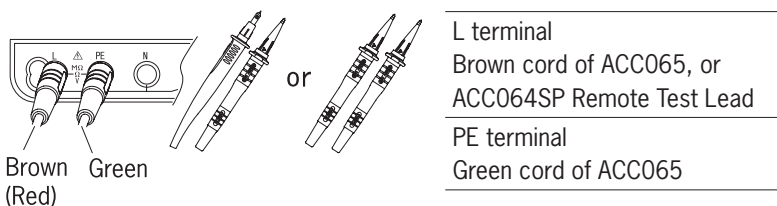

Fig. 9
- 2 Insert the Test Leads to the L and PE terminal on KT64DL respectively as shown in Fig.9.